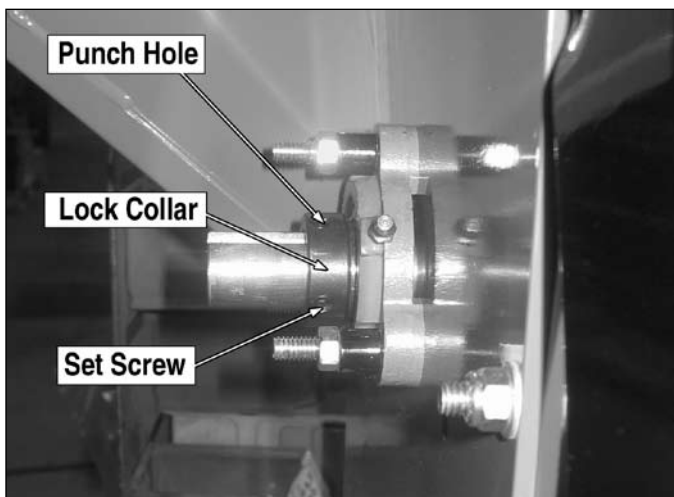

Figure 5.3 - Lock Collar
2. Loosen the set screws holding the lock collars on the chute side and engine side bearings (Figure 5.3).